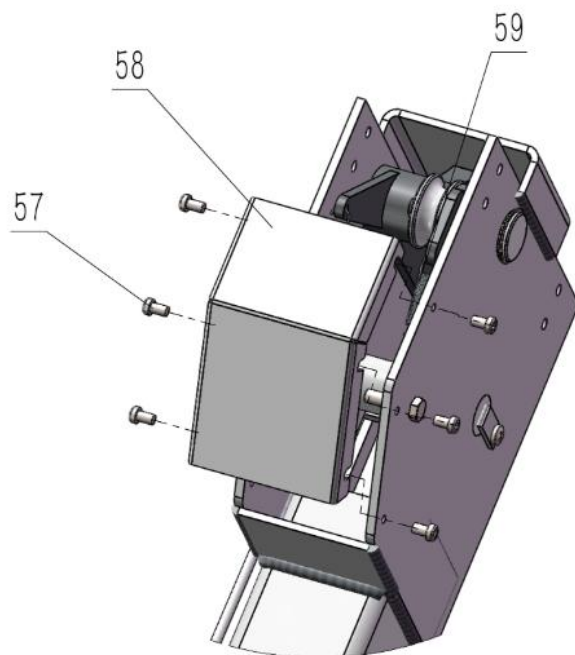

Fig. 27
N. Install spring and beam safety cover of cross beam (See fig .27).